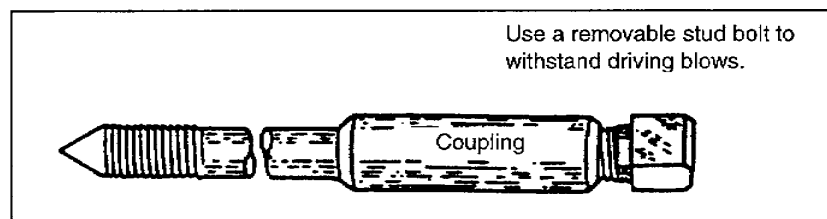

Figure 1-6. Grounding-rod sections
- e. For ease of storing, some grounding rods are constructed in 3-foot sections (Figure 1-6).